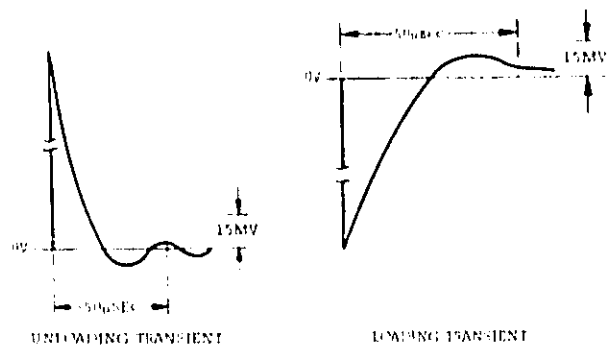

Figure 5-8. Transient Response Waveforms
f. Adjust 25K potentiometer until a stable display is obtained on oscilloscope. Waveform should be within the tolerances shown in Figure 5-8 (output should return to within 15mV of original value in less than 50 microseconds).